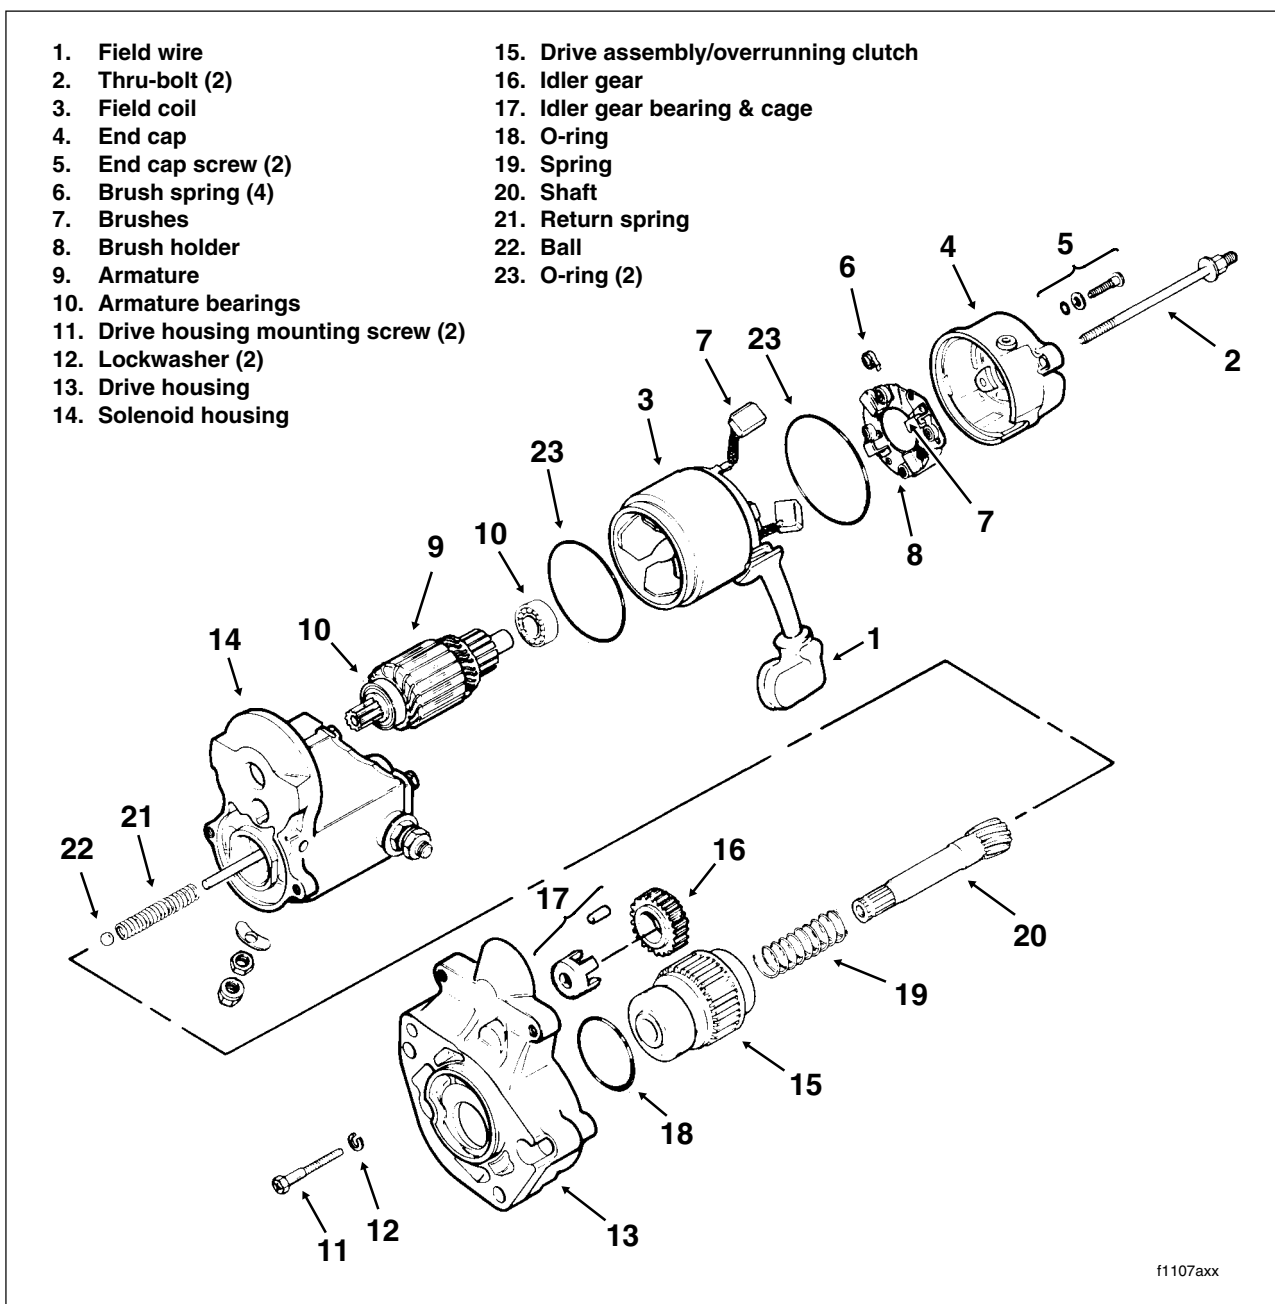

Figure 5-4. Starter
1. See Figures 5-4 and 5-5. Disconnect field wire (1).
2. See Figures 5-4 and 5-6. Remove thru-bolts (2). Remove field coil (3) and end cap (4).
4. See Figures 5-4 and 5-9. Disengage brush springs (6) and pull field coil brushes (7) out of brush holders (8).
6. See Figure 5-4. Remove armature (9).
16. Check armature bearings (10) and replace if necessary. See Figure 5-4.
Spring (21) and ball (22) are loose in shaft gear end. See Figure 5-4.
17. See Figures 5-4, 5-17 and 5-18. Remove the two drive housing mounting screws (11) and washers (12). Remove drive housing (13) from solenoid housing (14).
18. See Figures 5-4 and 5-19. Remove drive (15), idler gear (16) and idler gear bearing (17) from drive housing (13). O-ring (18) is in groove in drive housing.
19. Remove spring (19) and shaft (20).
1. See Figure 5-4. Replace O-rings (18, 23).